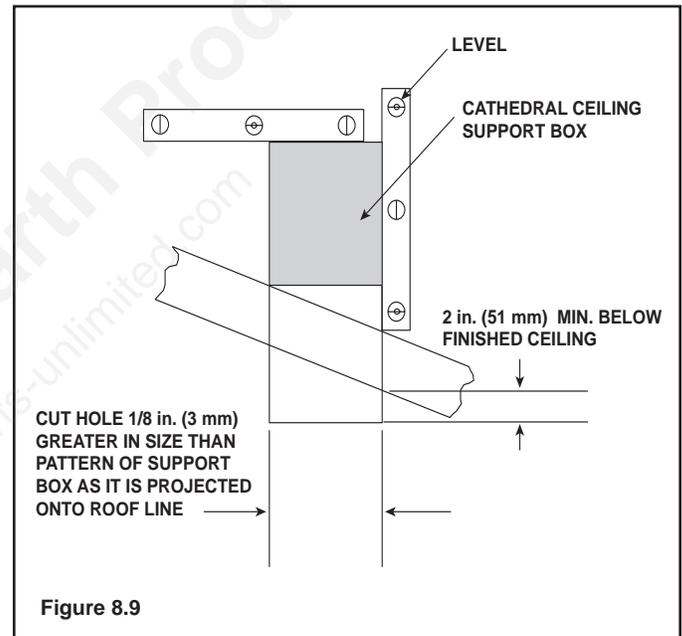

Figure 8.9
- Lower the support box through the hole in the roof until its bottom is at least 2 in. (51 mm) below the ceiling (Figure 8.9).